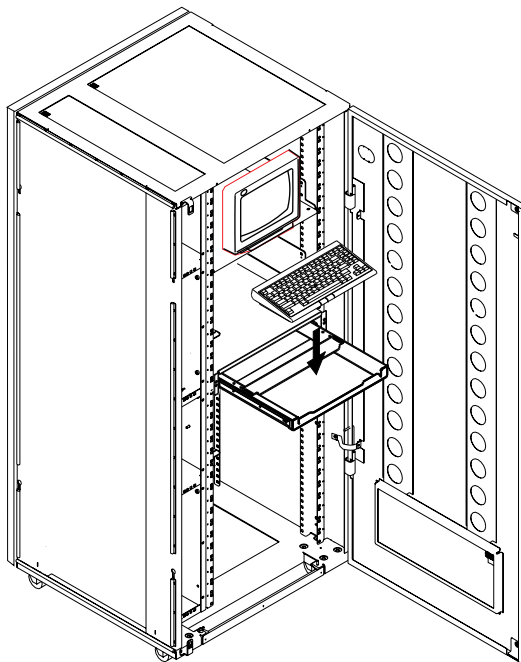

Figure 1-11. Installing the Keyboard
13. ____ Open the drawer and install the keyboard as shown in Figure 1-11.